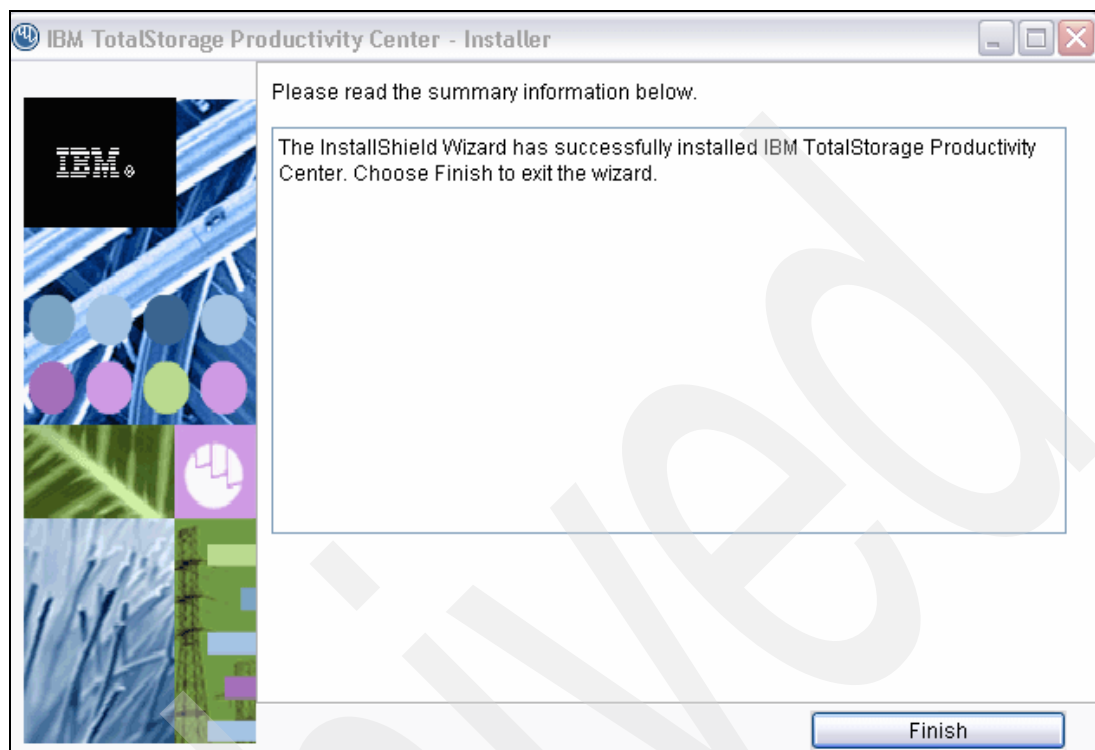

Figure 6-36 Installation summary
9. After the installation has completed successfully, a summary displays as shown in Figure 6-36. Click **Finish**.